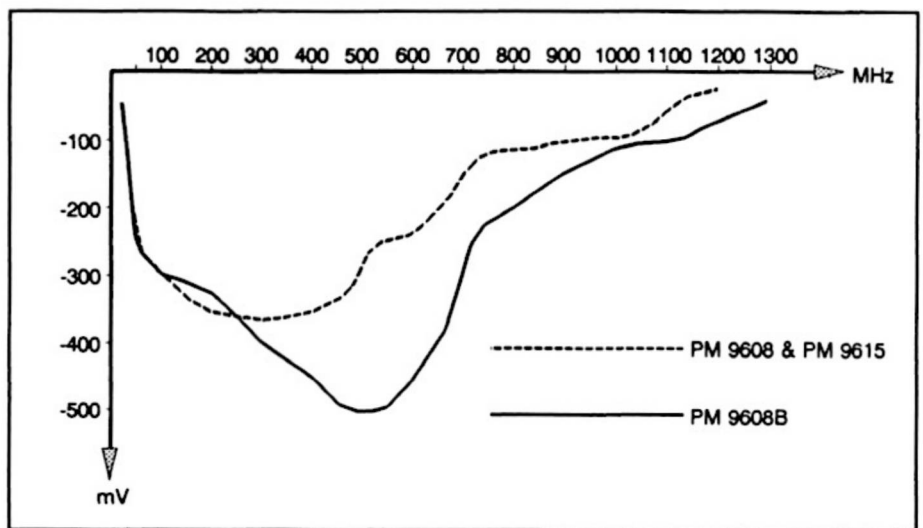

Figure 76. HF Input - frequency curve.
- Typical frequency curves for the types PM 9608, PM 9608B, and PM 9615 are illustrated in figure 76.